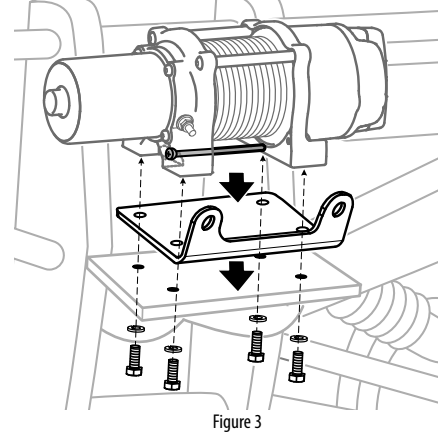

Figure 3
5. Install bolts and torque to 16 N-m (12 lb-ft) as shown in Figure 3.